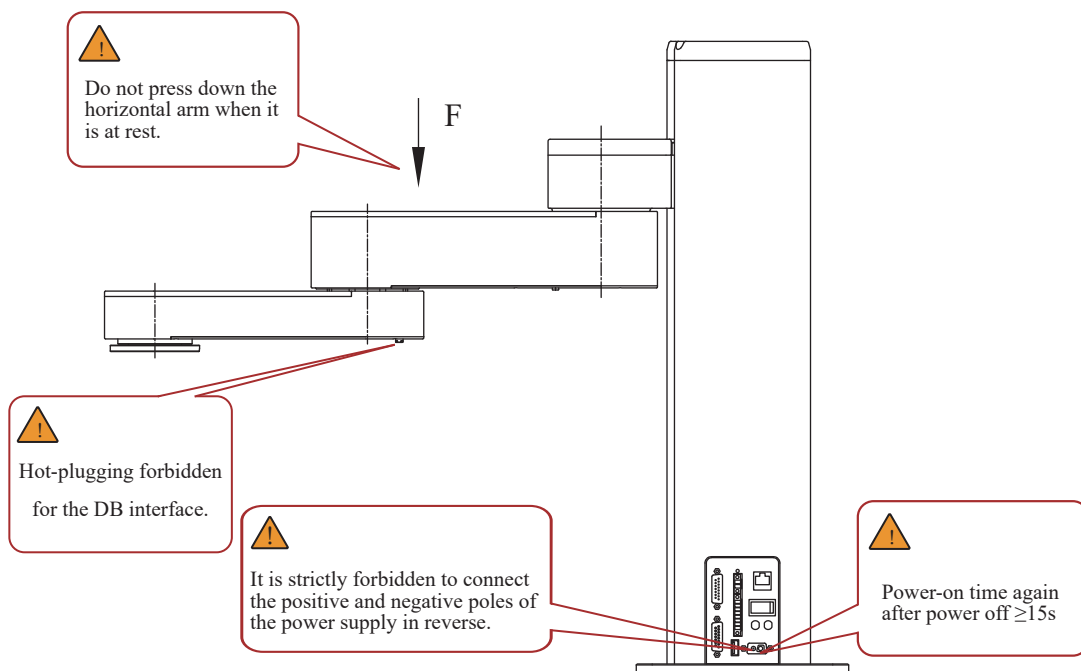

Figure 12
6. Do not press down the horizontal arm when the power is off (as shown in Figure 12).